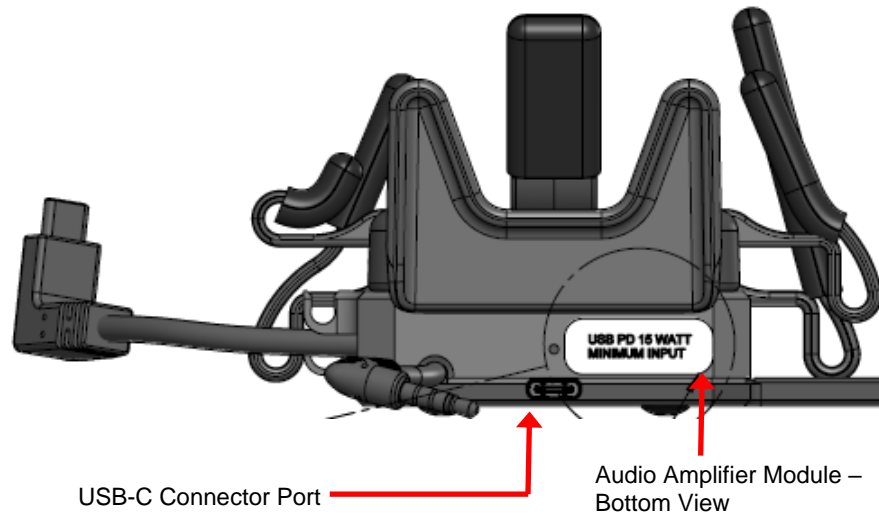

Figure 145: USB-C Connector Port on Audio Box
4. Attach the other USB-C connector at the other end of the Power USB-C cable to the Power USB-C connector port on the bottom of the Audio Amplifier Module (see **Figure 145**).